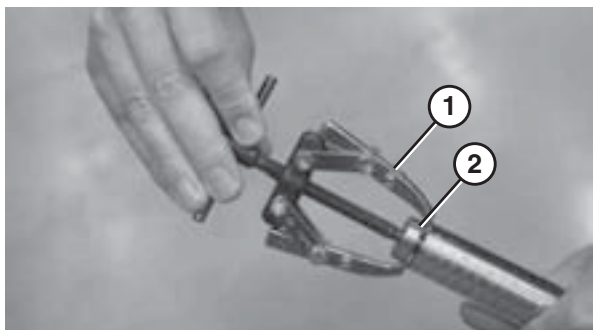

Figure 97
3. Using a bearing removal tool (Figure 97, item 1) remove the bearing (Figure 97, item 2).